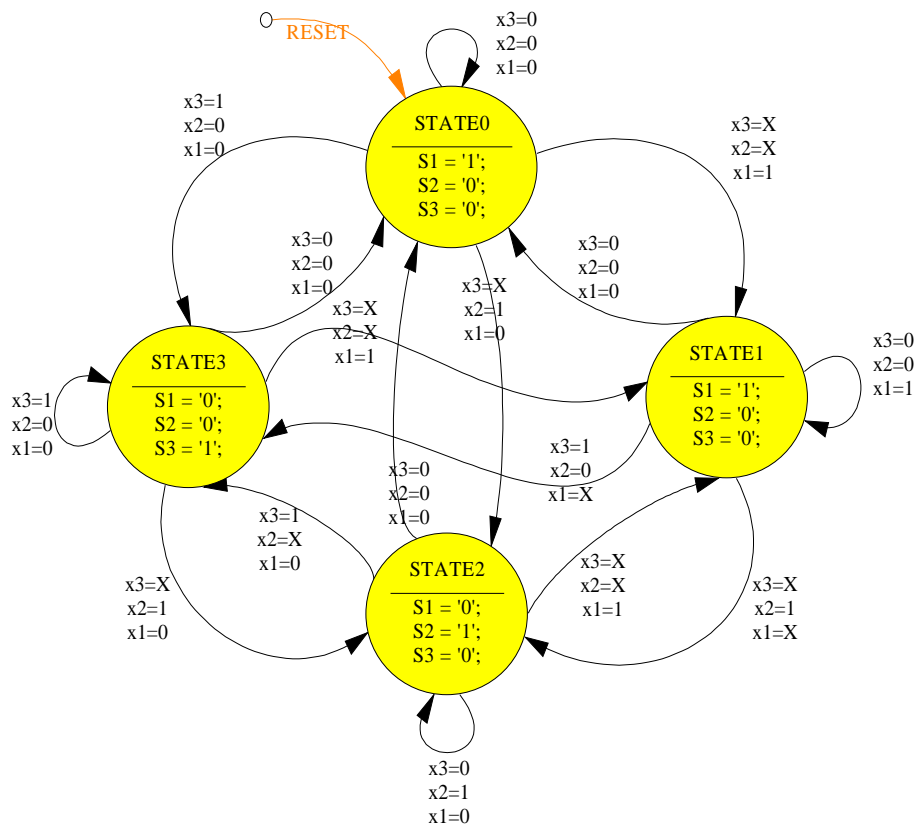

Figure 3: State Diagram for Traffic Light FSM
Based on the above specifications, the state diagram of this Finite State Machine has been provided in Figure 3 below. Your objective in this experiment is to implement the functionality described by this state diagram using Verilog HDL.
28. In the *Traffic_Controller.v* file, implement a module named *Traffic_Controller* which will implement the functionality specified by the state diagram of Figure 3.
- b. Another for the Output Logic, which generates the signals $S1$, $S2$, and $S3$ based on the Current State only (see Figure 3 above).